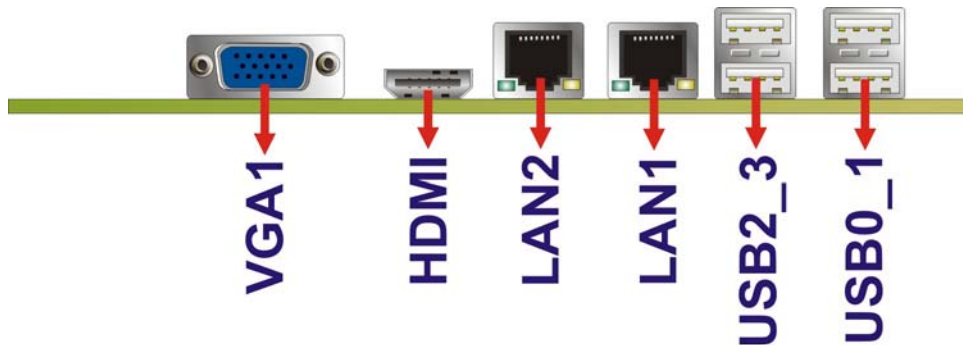

Figure 3-24: NANO-HM650 External Peripheral Interface Connector
Figure 3-24 shows the NANO-HM650 external peripheral interface connector (EPIC) panel. The NANO-HM650 EPIC panel consists of the following:
- CN Location: **See Figure 3-24**
CN Location:	See Figure 3-24
CN Location: See **Figure 3-24**